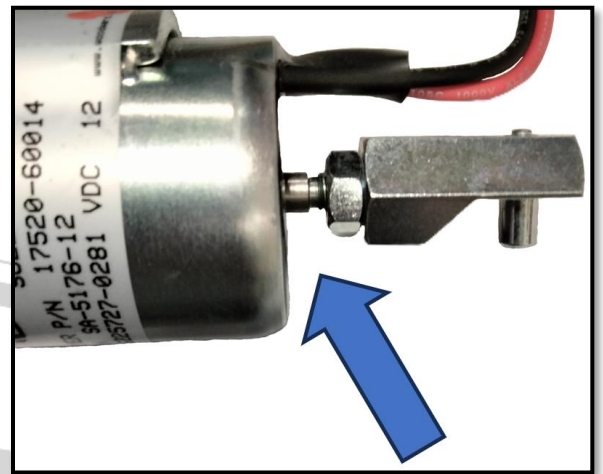

Figure 25: Energize to Run Solenoid plunger extended
2. Person 1: Press and hold the Fuel Primer Button (item 2 in Figure 3: Service Side View), and press on the back of the Energize to Run Solenoid plunger until it engages and holds position. As shown in Figure 25.